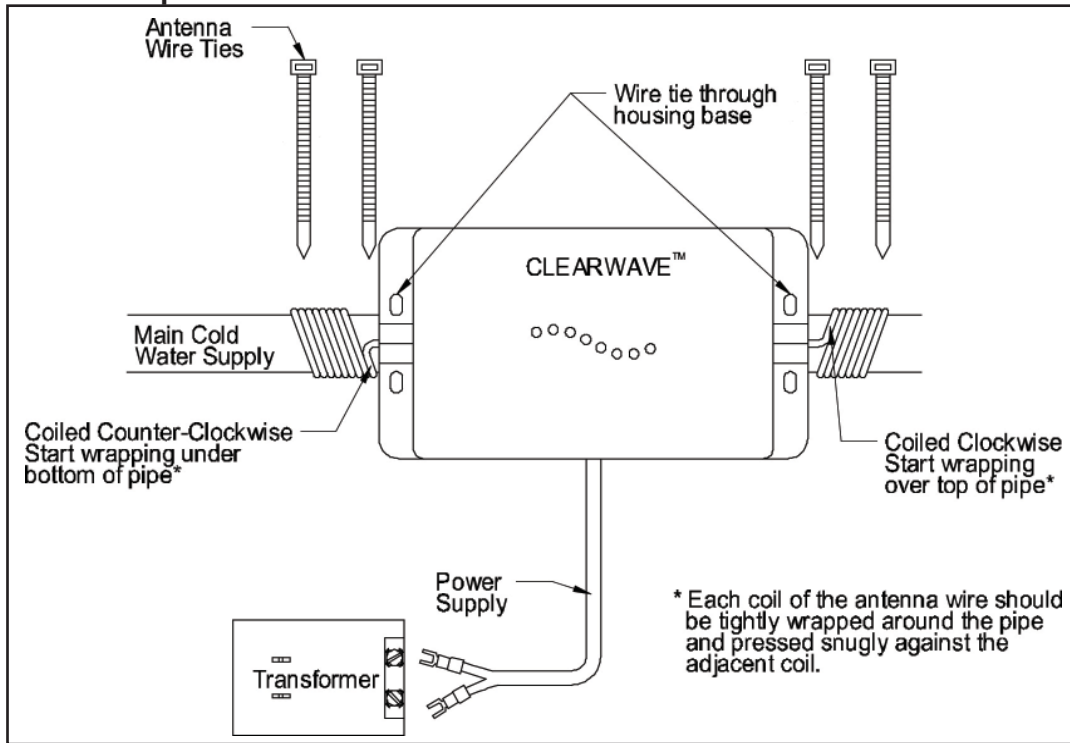
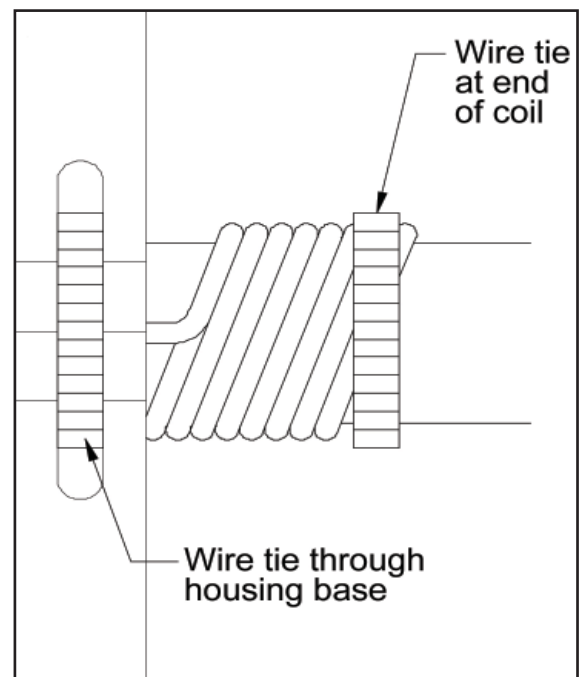

FIGURE 2
FIGURE 3
Wrap the red antennae wires around the water pipe protruding from each end of the CLEARWAVE (refer to Figure 2). The operation of the CLEARWAVE and the antenna installation is not based on direction of water flow, but **one antenna MUST be wrapped in a clockwise direction and the other wrapped in a counter-clockwise direction.** For best results, fully wrap the right antenna clockwise (over the top of the pipe first), keeping the antenna wire tight against the pipe and the preceding coil. Secure the end of the right antenna wire to the water pipe with a wire tie (refer to Figure 3). Wrap the left antenna wire counter-clockwise (under the bottom of the pipe first), keeping the antenna wire tight against the pipe and the preceding coil. Secure the end of the left antenna wire to the water pipe with a wire tie.
Wrap the right antenna clockwise (over the top of the pipe first), keeping the antenna wire tight against the pipe and the preceding coil. Secure the end of the right antenna wire to the water pipe with a wire tie (refer to Figure 3). Wrap the left antenna wire counter-clockwise (under the bottom of the pipe first), keeping the antenna wire tight against the pipe and the preceding coil. Secure the end of the left antenna wire to the water pipe with a wire tie.
Insert the unit power cable terminals onto the plug-in power supply (transformer) screw terminals and fasten securely. Plug the power supply into a standard 3 prong electrical wall outlet (refer to Figure 2). When energized, the CLEARWAVE modulation indicator lights start flashing sequentially indicating that the unit is functioning properly.
*Loose Antennae Wires:* The antennae wires must be held tightly against the water pipe and the coils must be pressed snugly against each other to transfer the electromagnetic energy into the water. If the antennae wires are loose, tighten them and also retighten the wire ties. Be sure that the antennae wires are wrapped in the proper direction (refer to Figure 2).